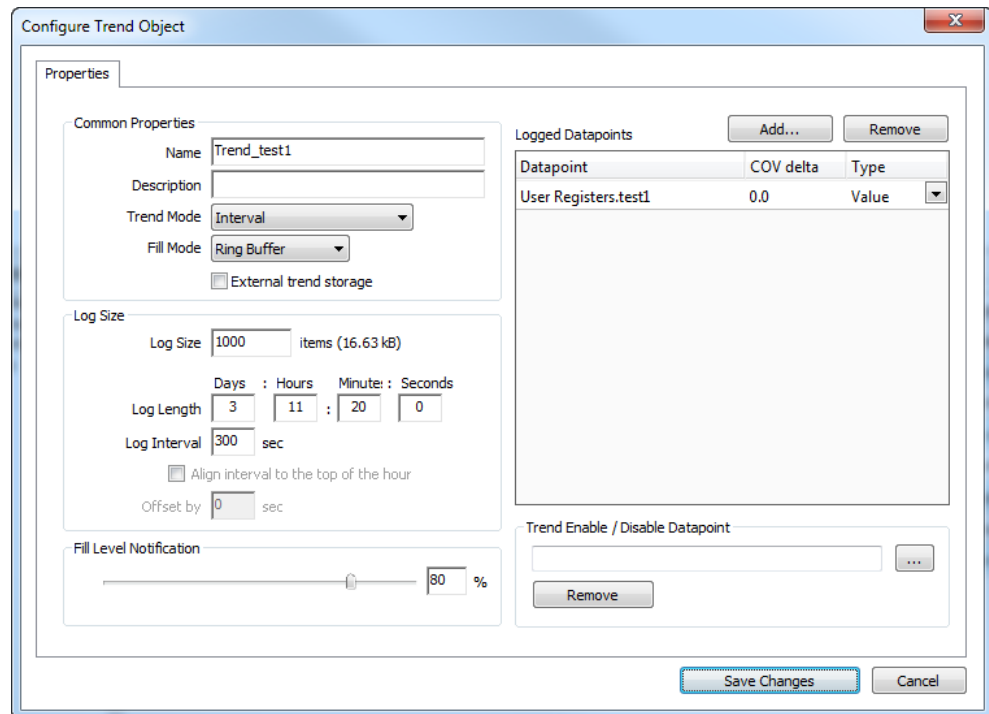

Figure 95: Basic Trend Object Configuration.
3. In the **Create New Trend Object** dialog (shown in Figure 95), enter a name and optionally a description for the trend log object.